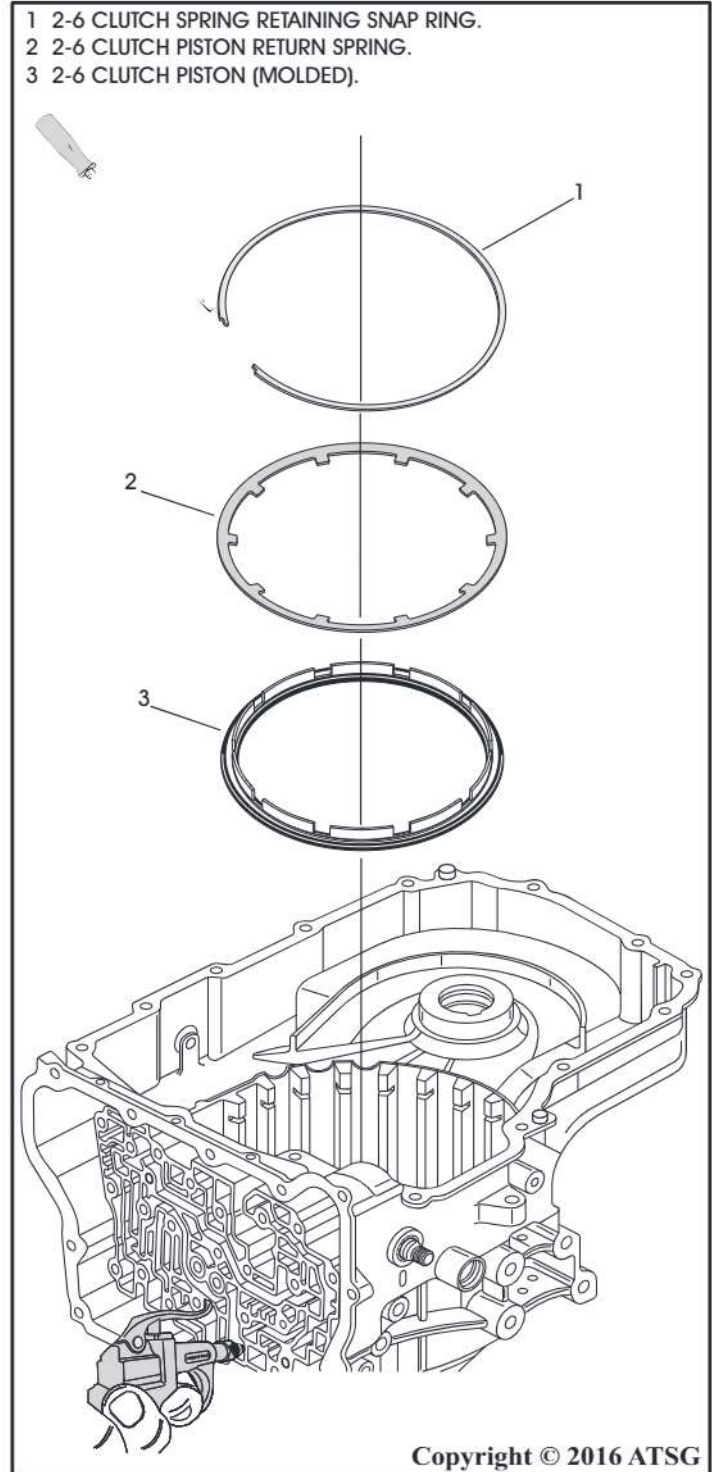

Figure 78
82. Remove the 2-6 clutch spring retaining snap ring as seen in Figure 78 using a long flat bladed tool.
83. Remove the 2-6 clutch piston return spring as seen in Figure 78.
84. Dislodge the 2-6 clutch piston by placing the tip of a blow gun into the 2-6 clutch feed hole and carefully applying air pressure until piston is free as shown in Figure 78.